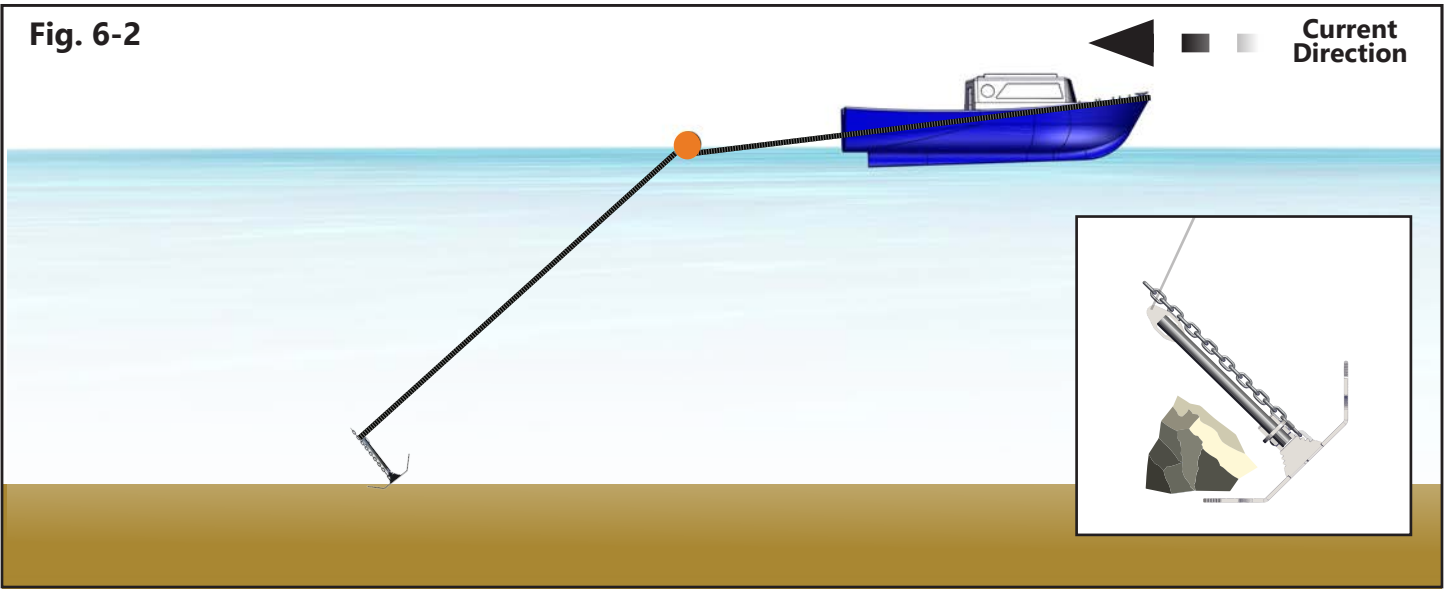

Fig. 6-3
5. Move upstream or upwind slowly pulling it free from its stuck position. Once the anchor is free move to step 6. See **Fig. 6-3**